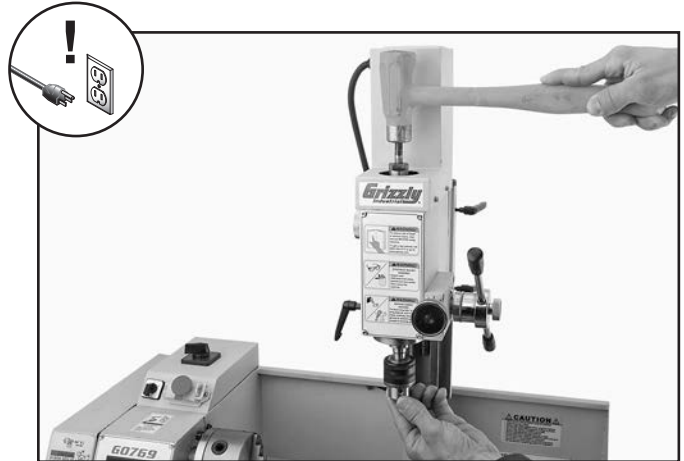

Figure 92. Example of tapping drawbar to unseat tool taper.
5. Tap top of drawbar with hammer to unseat taper (see **Figure 92**).